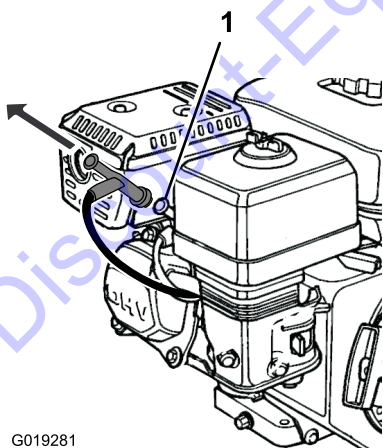

Figure 24
5. Remove the spark-plug wire (Figure 24).
11. Connect the spark-plug wire (Figure 24).